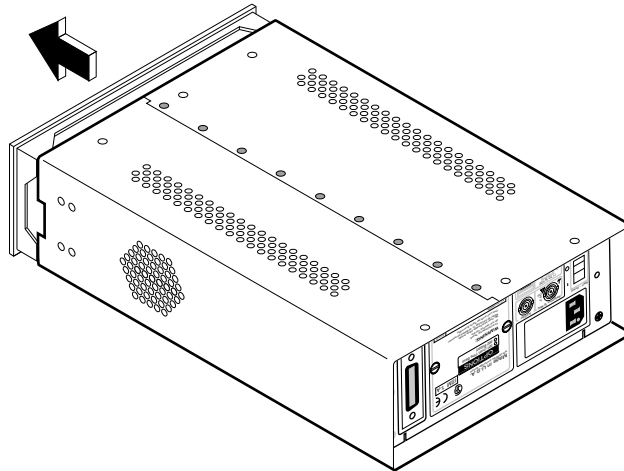

Figure 3-9 Removing the Shroud
- 6 With the Counter resting upside-down on your work surface, grip the front edge of the shroud in the cutout of the front bezel with the fingers of one hand, and push the Counter's rear panel toward the front of the shroud with your other hand. Reduce the amount of pressure you apply to the rear panel when the shroud begins to slide off the Counter, and carefully remove the shroud the rest of the way (see Figure 3-9).